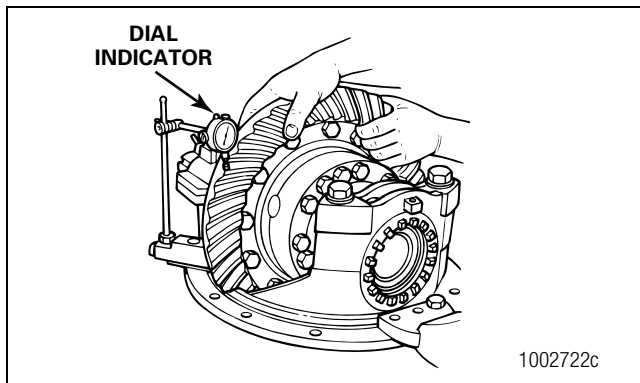

Figure 3.17
2. Install a dial indicator onto the flange of the carrier. Place the tip of the indicator against the drive side of a ring gear tooth. Adjust the dial indicator to ZERO. Figure 3.17.